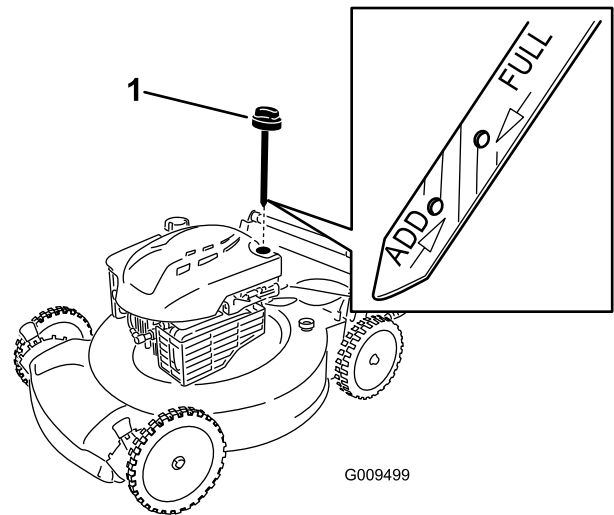

Figure 22
6. Remove the dipstick from the oil-fill tube (Figure 22).